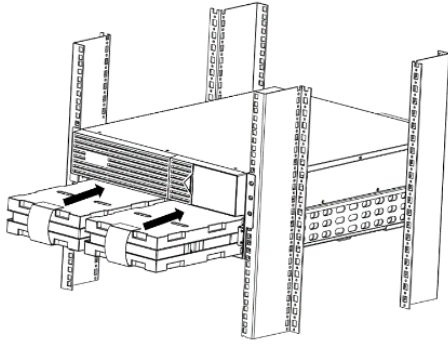

Figure 7
5. Re-insert the internal battery modules (Fig. 7).